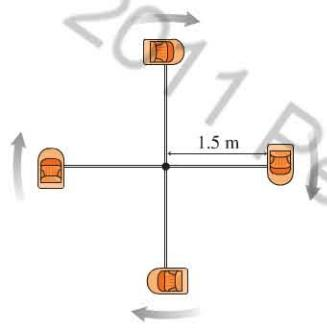

FIGURE P7.27
27. **II** A playground toy has four seats, each 5.0 kg, attached to very light, 1.5-m-long rods, as seen from above in Figure P7.27. If two children, with masses of 15 kg and 20 kg, sit in seats opposite one another, what is the moment of inertia about the rotation axis?